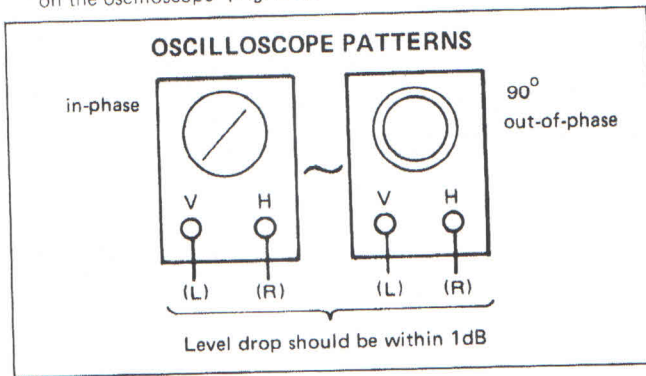

Fig. 3-7
3. After the adjustment, assure the mode by the in-phase pattern on the oscilloscope (Fig. 3-7).